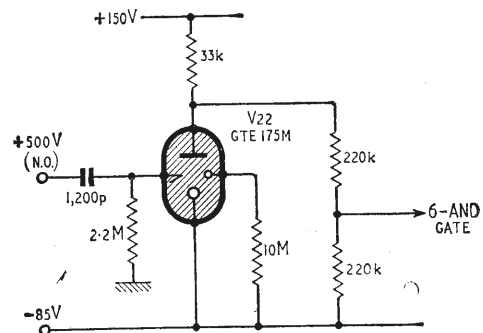

Fig. 2. Circuit of V_{22} , the "initial inhibit" element.
The electronic circuits of EDGE may now be considered in more detail. The power supplies are conventional. A voltage-doubling circuit feeds a cold-cathode stabilizing chain to provide all voltages except for a +18V line, which is derived from a bridge rectifier, and a +10V line which is stabilized from the +18V line by a Zener diode. The +500V(NO) and (NC) line in Figs. 2 and 3 refer to the normally open and normally closed states of S_{10} , the coin operated microswitch in the rejector.
Fig. 2 shows the circuit of V_{22} , which is struck by a positive pulse from S_{10} on the first operation and remains burning thereafter until the mains supply is disconnected.